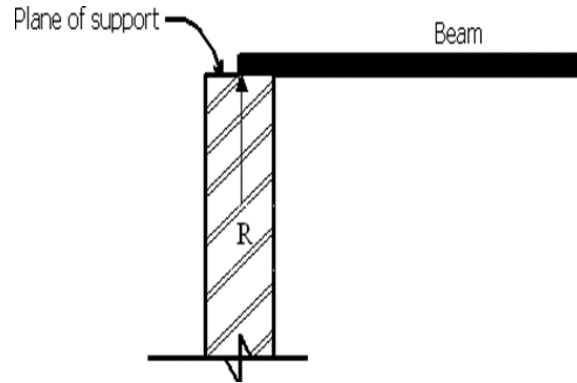

Fig 3.1 Simple support
1. **Simple support:** This is a support where a beam rests freely on a support. The beam is free to move only horizontally and also can rotate about the support. In such a support one reaction, which is perpendicular to the plane of support, is developed. Fig 3.1 shows a simple support.